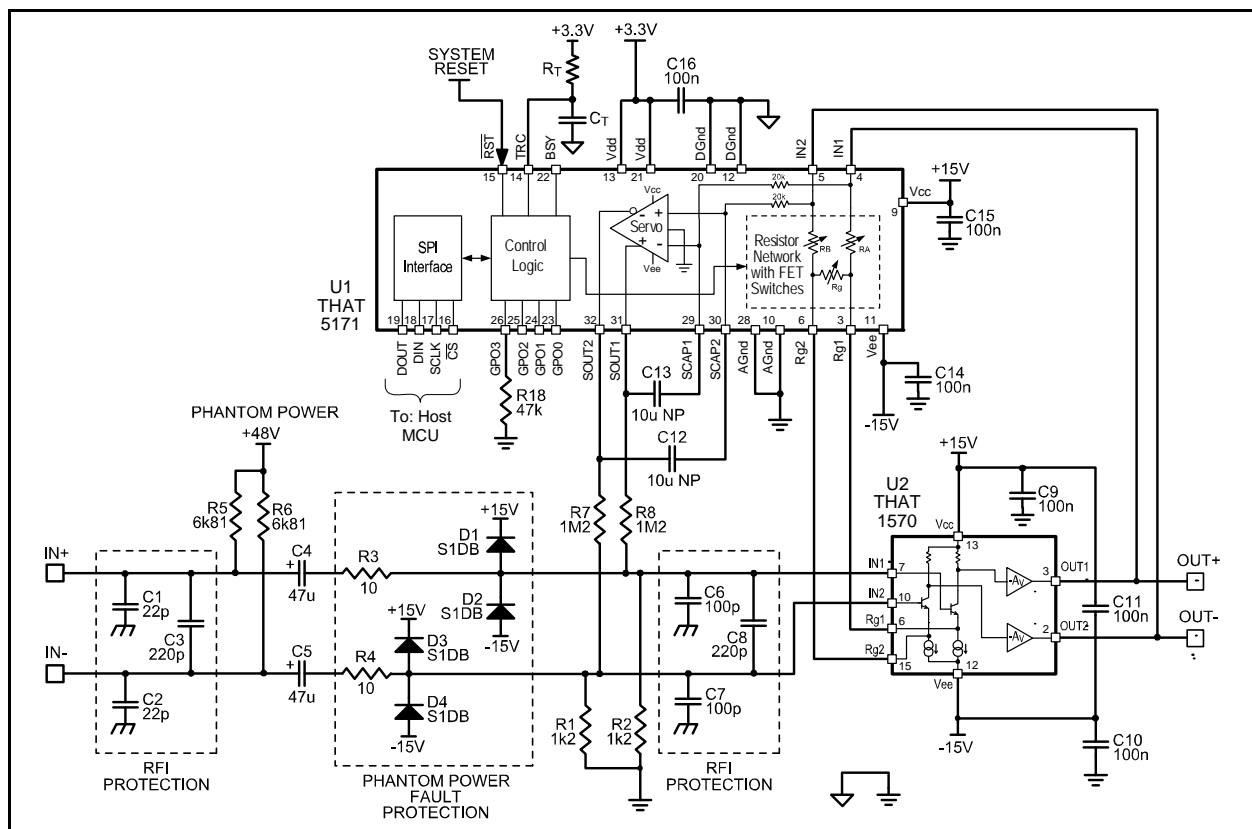
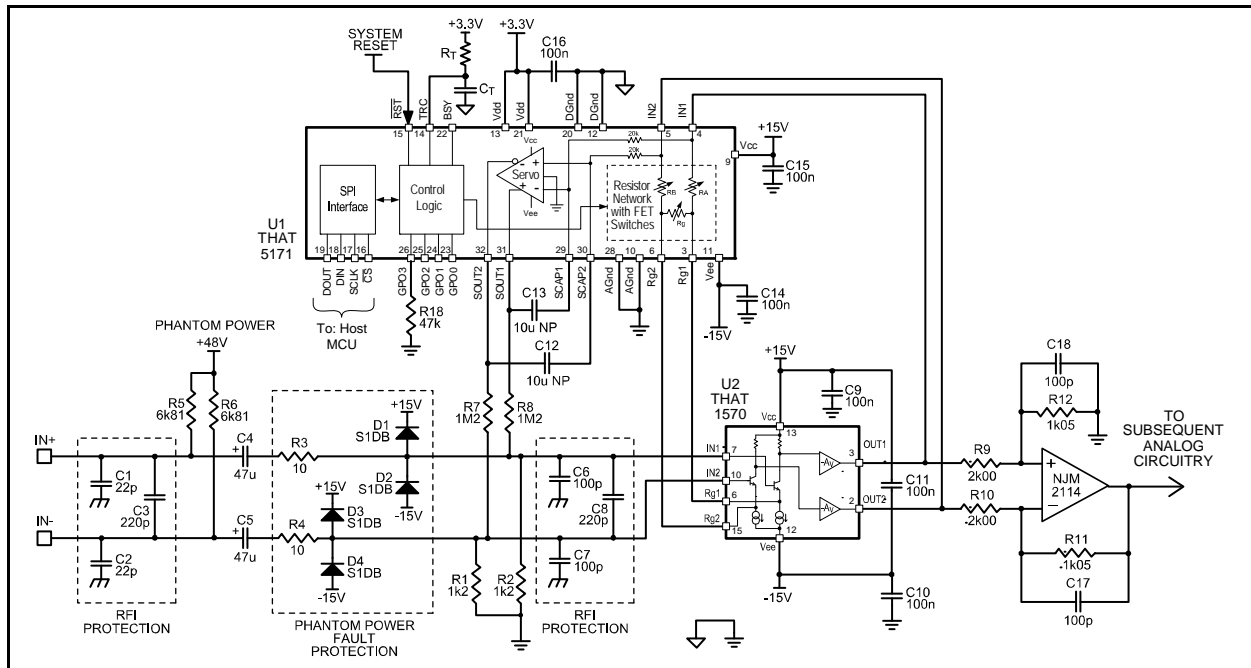

Figure 3. 5171/1570 basic application circuit.
Figure 4. 5171/1570 typical application with single-ended output.
A built-in zero-crossing detector can be used to restrict gain changes to times when the analog signal is very close to zero. The detector monitors the differential signal present between the IN₁ and IN₂ pins of the 5171. When enabled, it permits gain changes to take place only when the signal is within ±5mV. A timeout (set by external components R_T and C_T in figures 3~6) ensures that a gain change will always occur at the expiration of the timeout, in case the signal has not gotten within the voltage window by that time.
The combination of the input coupling capacitors (C₄ and C₅ in Figures 3~6), the bias resistors for the 1570 (R₁ and R₂ – which form a load for C₄ and C₅), and the servo, form a 2nd order highpass filter whose characteristics change with the gain setting. The Q of this filter is highest at the highest gain setting. (At low gains, the behavior is governed almost entirely by the input coupling network and bias resistors, since the poles split and the one related to the servo moves very low.) Assuming 1.2kΩ for R₁ and R₂, and 1.2MΩ for R₇ and R₈, we can set the highest Q to be about .87 (for approximately Butterworth response) if we choose C₁₂ and C₁₃ to be 1/5 the values of C₄ and C₅.
The circuit of Figure 3 shows the most basic application of the 5171 and 1570 to form a complete low-noise microphone preamplifier.
The circuit of Figure 3 offers differential gain that varies from 5.6 to 68.6dB. There is one large ~8dB step from 5.6dB to 13.6dB. Above 13.6dB, gain may be controlled in 1dB steps to +68.6dB. For single-ended analog outputs, the circuit of Figure 3 can be followed by a differential-to-single-ended converter, as shown in Figure 4. Here, the differential amplifier is configured for -5.6dB gain in order to minimize noise and maximize headroom at the output of the circuit. Including the 5.6dB attenuation in the differential amplifier, the system gain can be set to 0dB, or any gain from +8dB to +63dB in 1dB steps.
With the circuit of Figure 4, the maximum input signal levels remain the same, but the (now single-ended) output levels drop by 5.6dB due to the loss of the differential amplifier. When converting to single-ended signals, take care to select a low-noise opamp, and pay attention to the noise generated by the impedances. The component values shown in Figure 4 will largely preserve the dynamic range of the 1570 and 5171 combination, though they do compromise noise by 1dB at the lowest gain settings.
The circuits of Fig 3 through 6 include RFI protection in two sections. Small capacitors (C_1 and C_2) are used from the positive and negative signal inputs to chassis ground, along with a larger capacitor (C_3) across the two inputs. These components should be located as close as possible to the input signal connector, and are intended to prevent RF from entering the chassis of the device.
- 2) **ZERO-CROSSING Mode:** Updates are made on the next output signal zero-crossing after a rising edge on the /CS pin. An RC time constant connected to the TRC pin (R_T/C_T in Figures 3~6) establishes a time-out period in case a zero-crossing does not occur within a desired time window. The zero-crossing time-out function operates as follows: